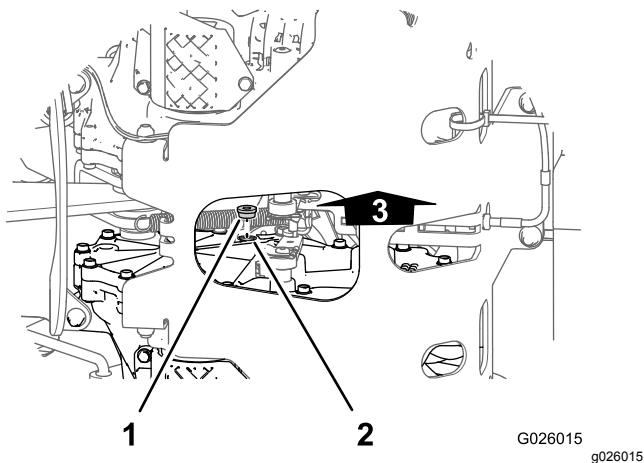
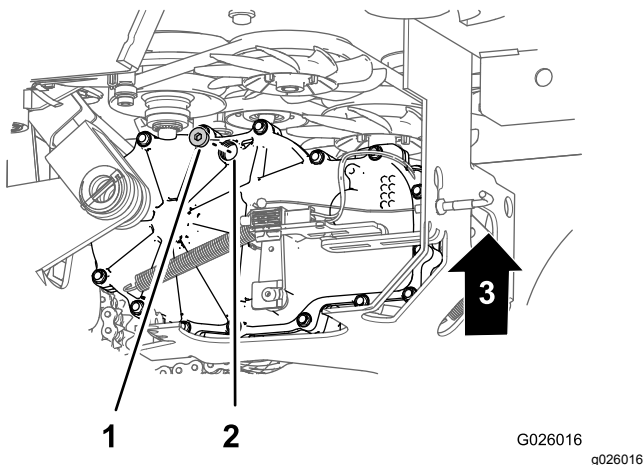

Figure 60
Figure 61
2. Align a drain pan under the sight plugs of the transmissions (Figure 60 and Figure 61).
3. At the inboard side of the transmission, near the top, remove the sight plug from 1 of the transmissions (Figure 60 and Figure 61).